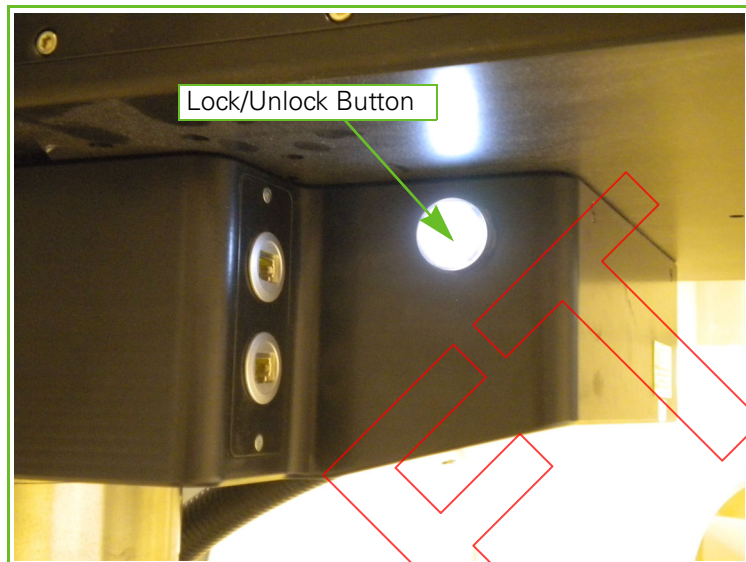

Figure 13-4. Lock/Unlock Button
3. Both couplers get engaged; you then must manually lock the docking device coupler and the PPS coupler by pressing the button on the wrist (see Figure 13-4).
2. After the PPS automatically lowers the docking device onto the trolley, you must manually unlock the docking device coupler from the PPS coupler by pressing the button on the wrist (see Figure 13-4).